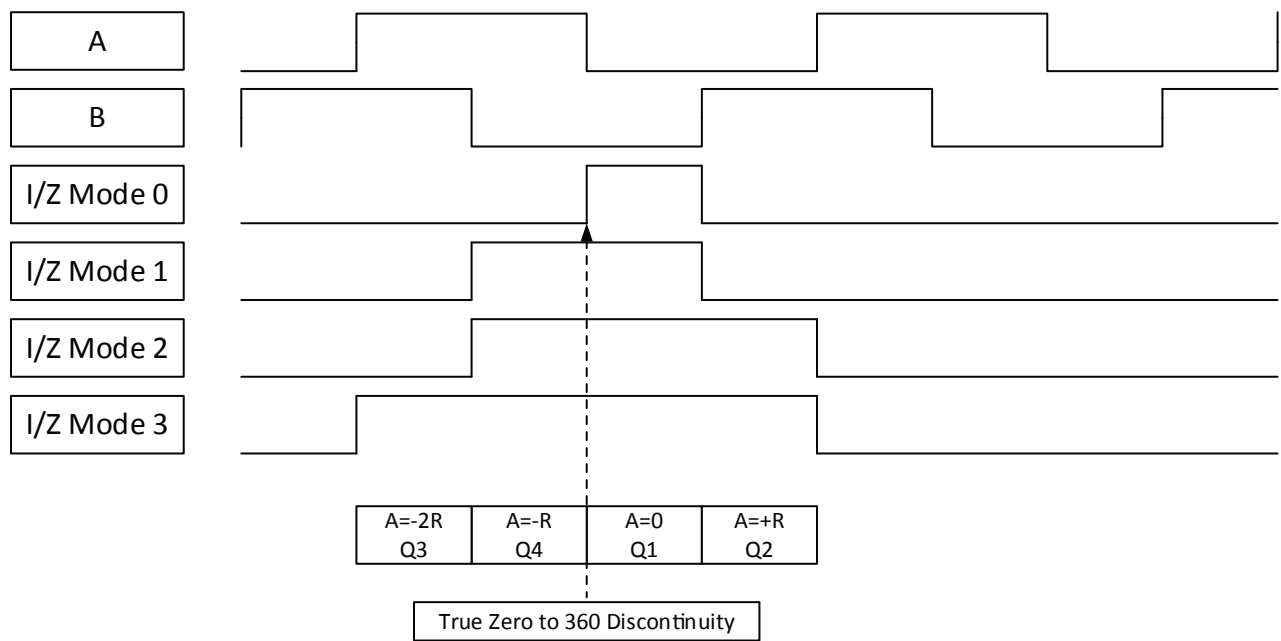

Figure 9: Index Pulse
The index pulse I (or Z in some descriptions) marks the absolute zero (0) position of the encoder. Under rotation, this allows the receiver to synchronize to a known mechanical/magnetic position, and then use the incremental A/B signals to keep track of the absolute position. To support a range of ABI receivers, the 'I' pulse has four widths, defined in Figure 9.